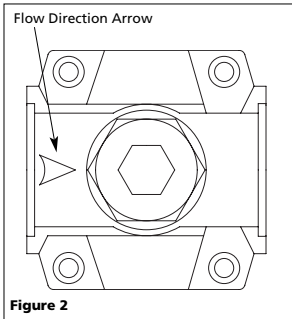

Figure 2
1. Locate the air flow direction arrow (See Figure 2, detail). This arrow shows the direction of the air flow, i.e., it points to the outlet.
5. Verify the arrow points to the outlet. (See Figure 2.)
- Verifique que la flecha apunte hacia la salida (Vea Fig. 2).